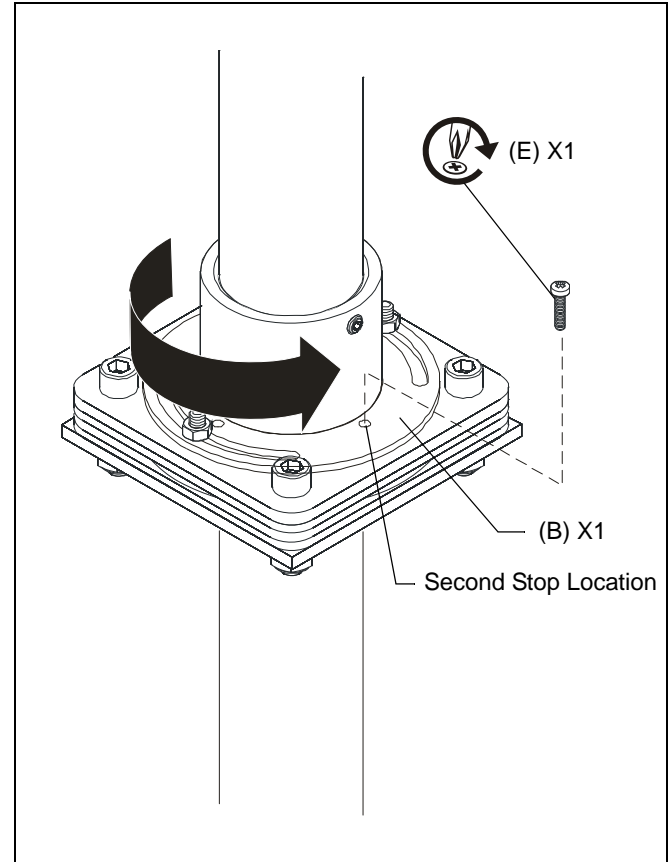

Figure 5
9. Rotate the bottom portion of the CMA-351 to the desired location for the second stop (0 degrees to 330 degrees). (See Figure 5)
10. Insert one Phillips pan head screw (E) in the nearest threaded hole in stop plate (B). (See Figure 5)